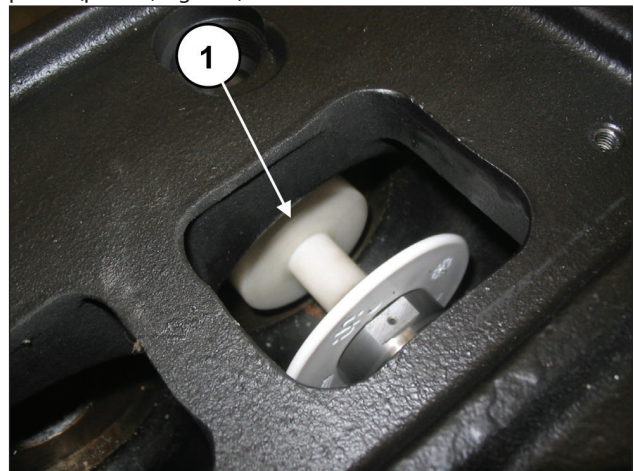

Fig. 158
Manually turn the shaft in such a way to bring the 3 pistons progressively to the top dead centre position and insert the buffer tool code 27516600 between the piston guide and the piston (pos. ①, Fig. 158).